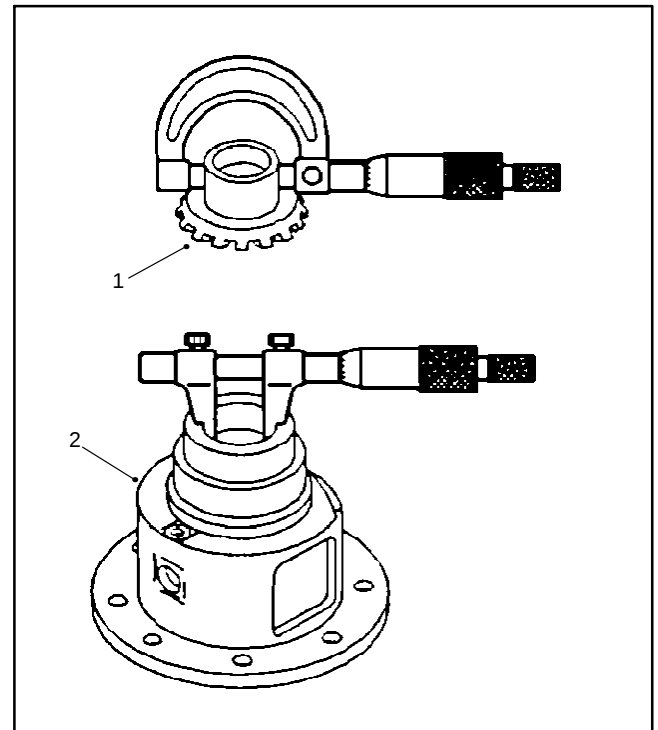

Figure 85
1. Measure the differential side gear O.D. and the differential case I.D. to determine the side gear to case clearance (Fig. 85). Replace components as necessary.